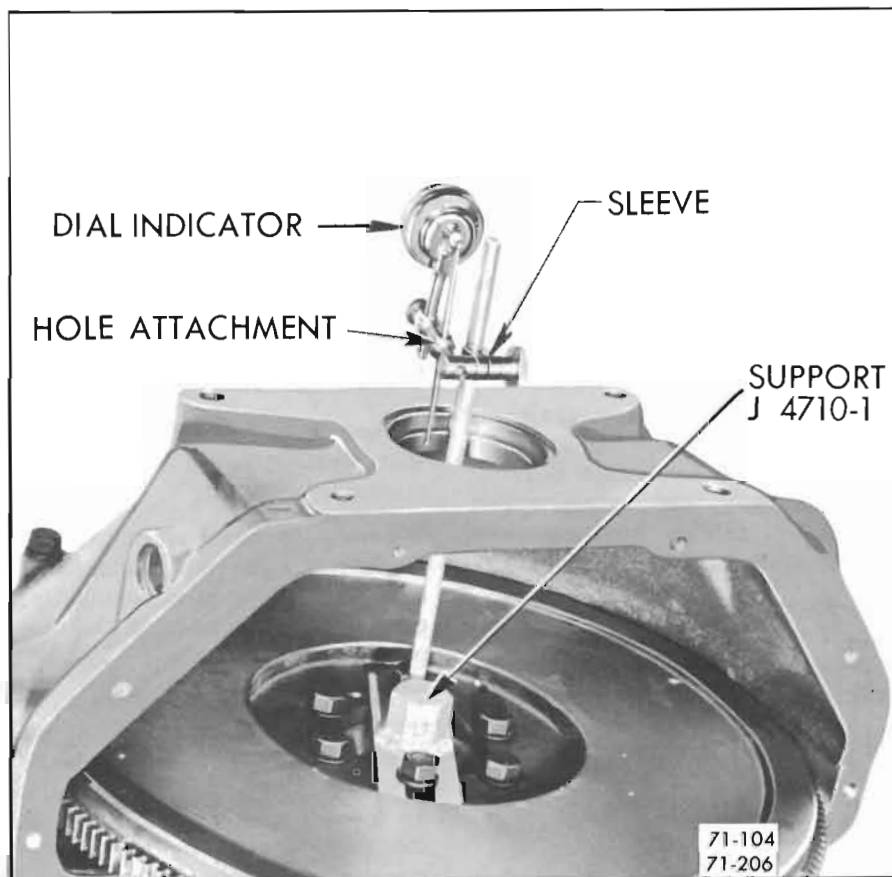

Figure 71-104—Checking Alignment of Pilot Hole
2. Attach Indicator Support J-4710-1 to flywheel with two flywheel bolts. Mount dial indicator and hole attachment on pilot as shown in Figure 71-104. Adjust ball end of hole attachment to bear against side of pilot hole in flywheel housing.
4. Install dial indicator as shown in Figure 71-104, and check run-out at pilot hole in housing.